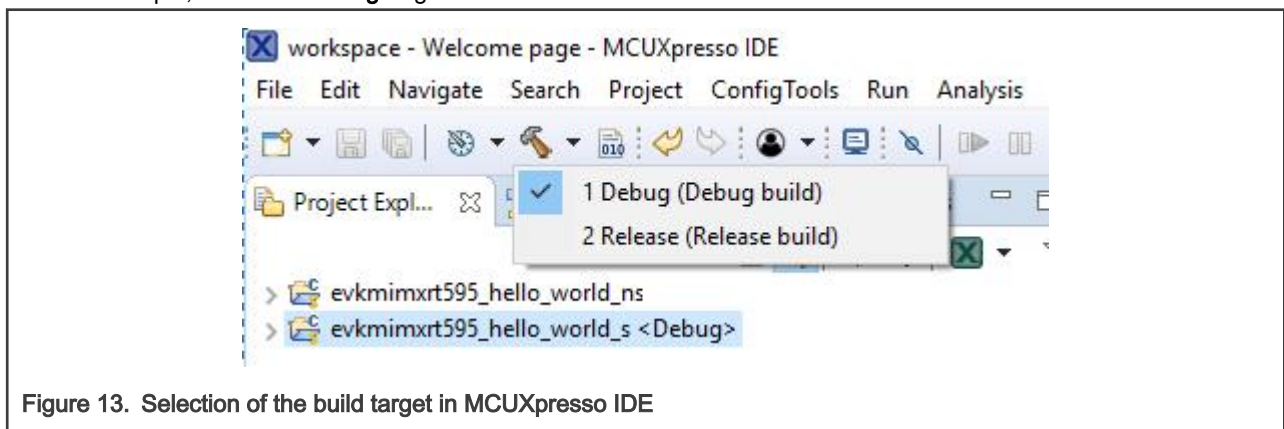

Figure 13. Selection of the build target in MCUXpresso IDE
- Now, two projects should be imported into the workspace. To start building the TrustZone application, highlight the `evkmimxrt595_hello_world_s` project (TrustZone master project) in the Project Explorer. Then, choose the appropriate build target, **Debug** or **Release**, by clicking the downward facing arrow next to the hammer icon, as shown in Figure 13. For this example, select the **Debug** target.